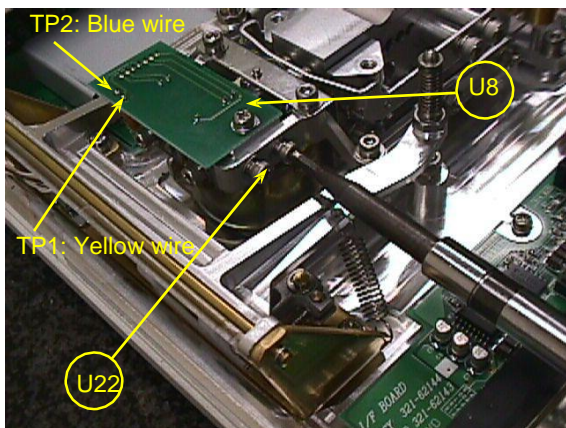

Fig.11
- Detach the Assy,Case (3) / Assy,Pan support (4) in accordance with the steps outlined in “3. Inspection of the Balance Interior”.
- Remove the two P3 M3x10 hexagonal socket-head bolts (U22) that fixes the Assy,Detector (U8) (Fig.11).